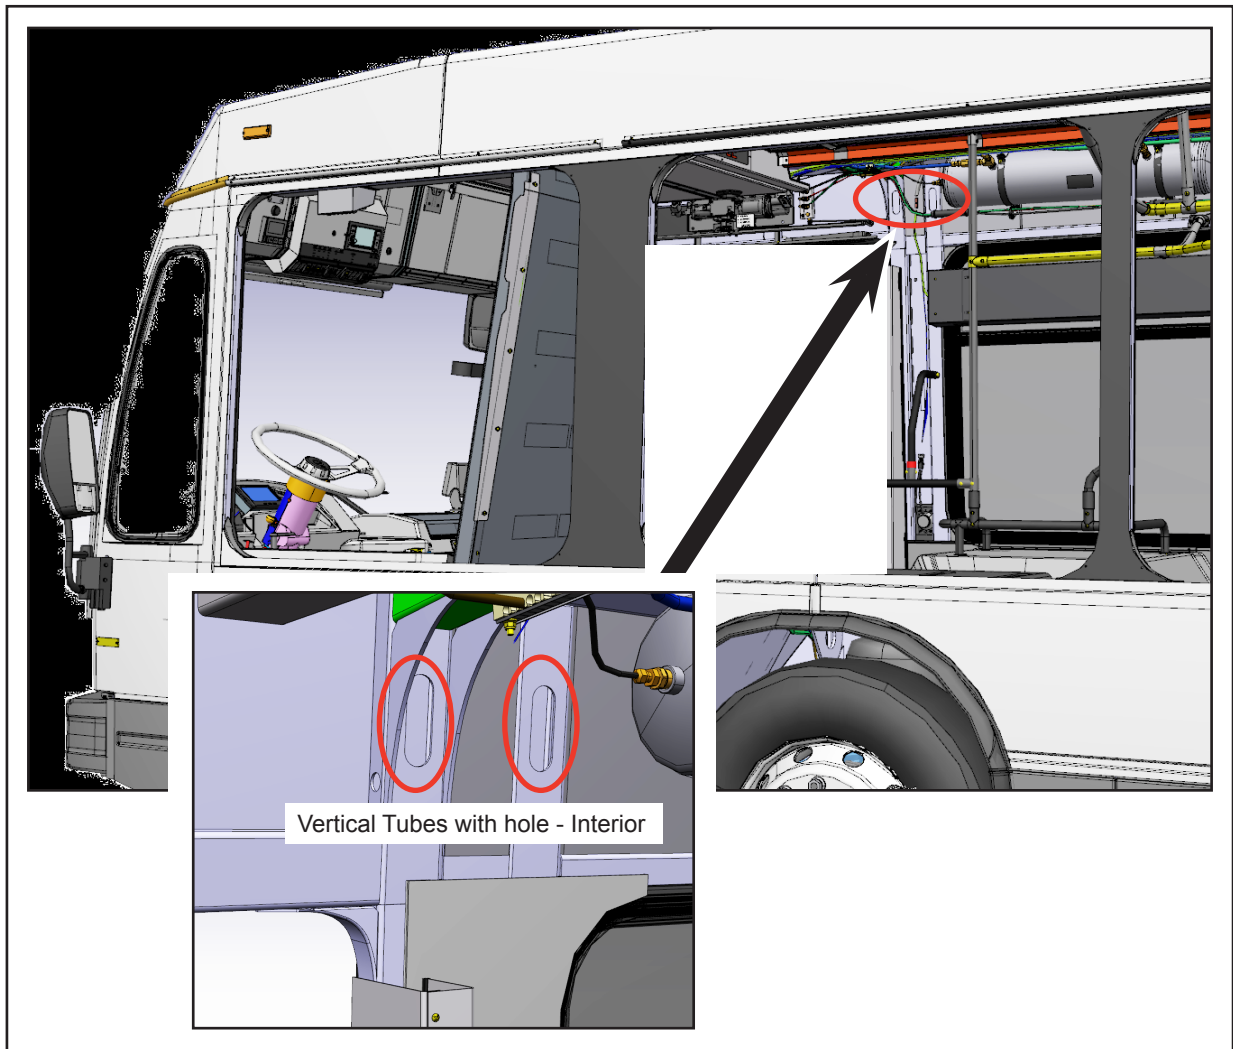
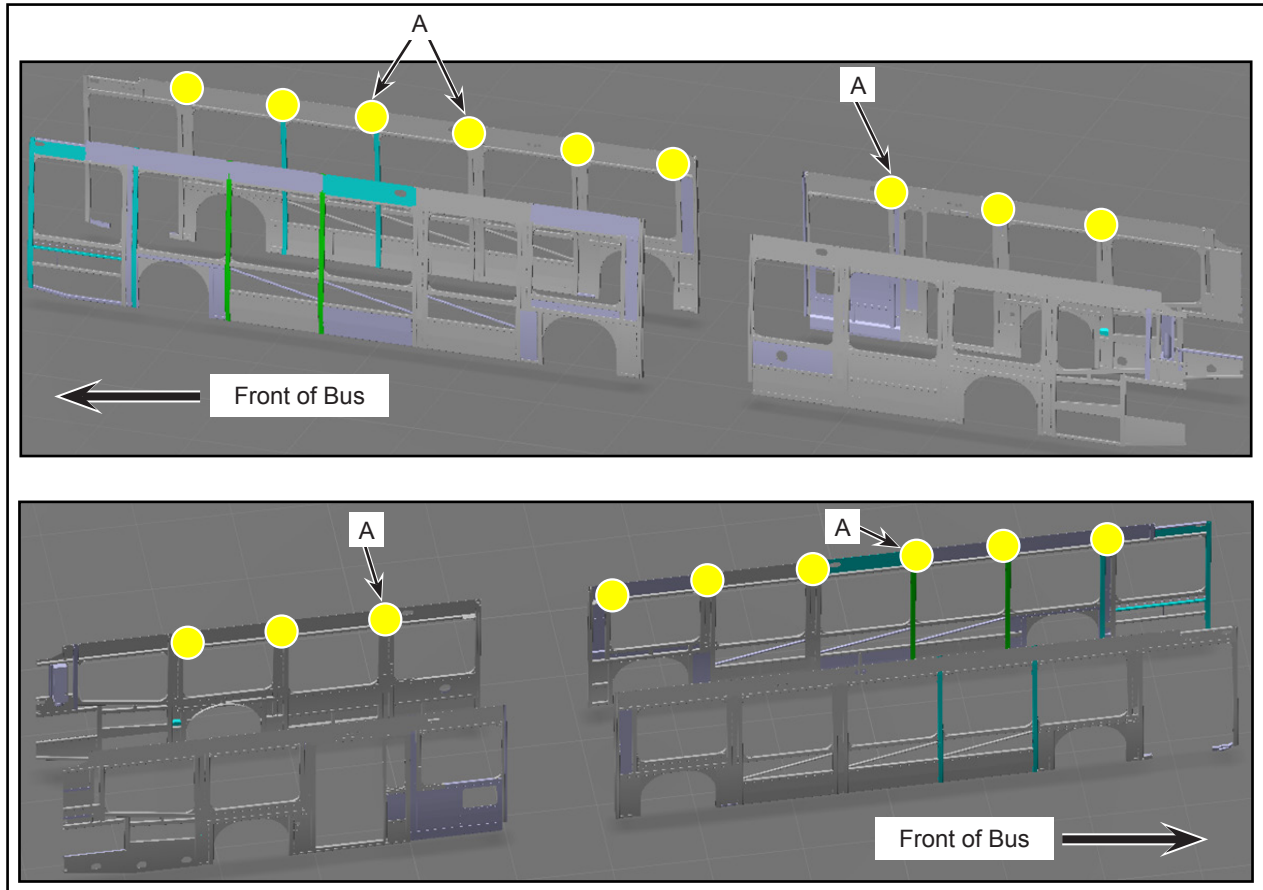

Figure 4 - Typical View of Vertical Tubes with Hole (Interior)
Figure 5 - Typical View of Hole Cut-outs in Vertical Tubes with Standard HVAC Drain Positions
- 1.7. Identify the structure vertical tubes with top hole cut-outs in the baselights, as these will be blocked with Coilflex Foam to block dust/debris intrusion (see Figure 4 and Figure 5). The hole cut-outs are present along the length of the bus.
- 1.8. Identify the standard HVAC drain position (A), to be filled with smaller foam piece (N90216-02) (see Figure 5). Other highlighted tubes to be filled with larger foam piece (N90216-01). Location subject to change based on HVAC position.